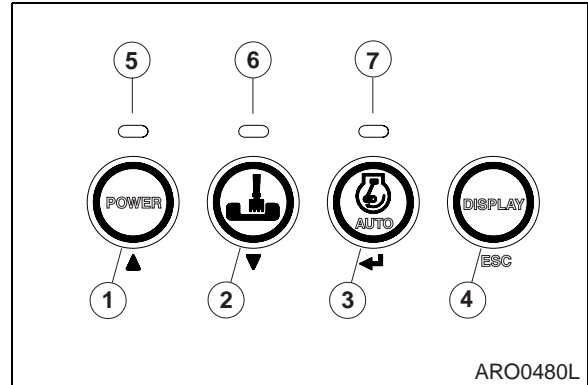

Figure 50
2. Select a proper power mode using buttons (Figure 50) before starting work.
3. When the power mode button (1, Figure 50) is pressed, a signal sounds. Changing the power mode to either "ON" or "OFF." When the power mode is turned "ON," the LED indicator (5, Figure 50) turns "ON."
Deactivate the power mode by pressing it a second time. When the power mode is turned "OFF," the LED indicator (5, Figure 50) turns "OFF" and the power mode returns to the standard mode.